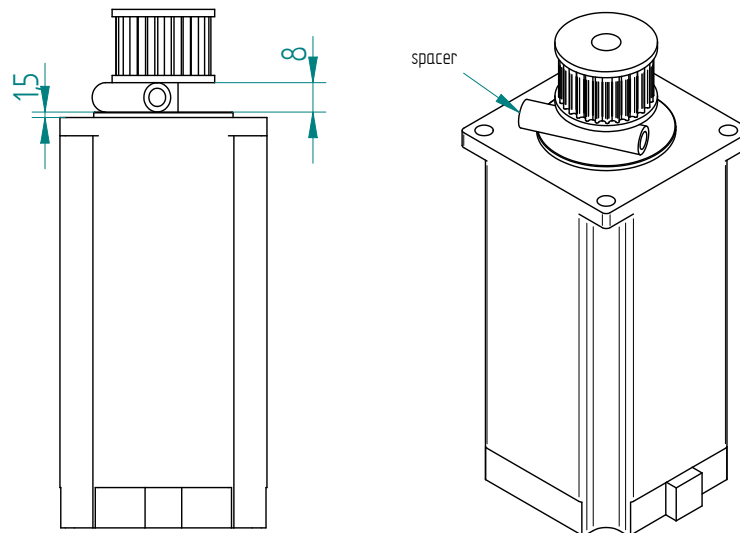

Figure 1.25: Position of the pulley on the motor shaft
5. Press the **pulley** onto the **spacer**, using a **spacer** to ensure correct positioning (See Figure 1.25, page 49).